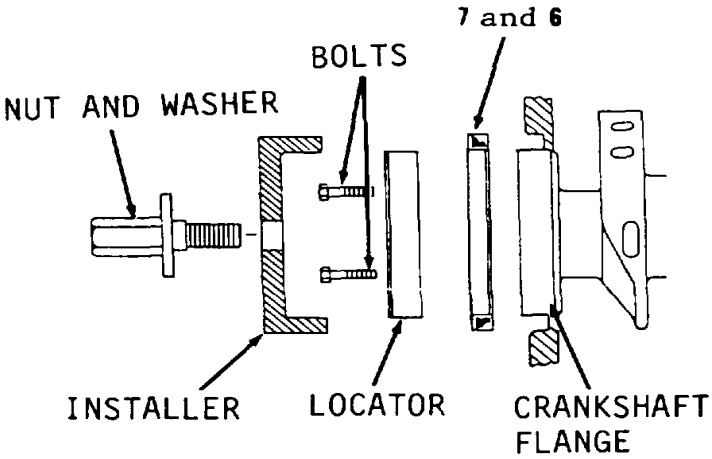

Figure 13-60.
3. Position locator (Figure 13-60) on rear flange of crankshaft.
5. Apply quick cure primer to outside diameter of crankshaft flange and inside diameter of wear sleeve (7).
6. Apply retaining compound to outside diameter of crankshaft flange and inside diameter of items 7 and 6 as an assembly.
7. Position items 7 and 6 as an assembly and slide on locator. Make sure lip of rear seal (6) is toward engine and bevel of wear sleeve (7) is away from engine.